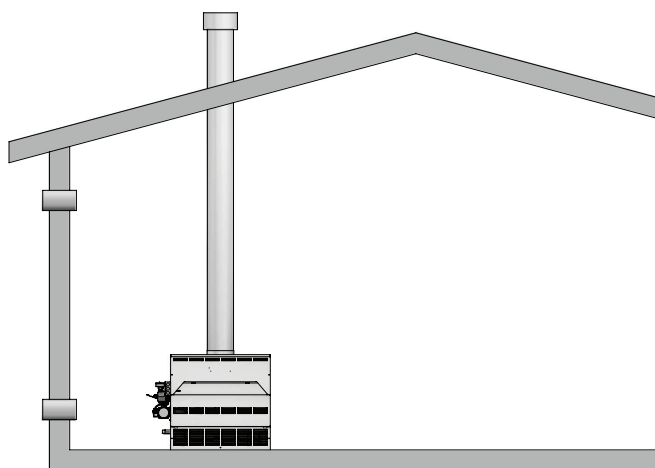

Figure 1-2_Combustion Air Direct from Outside
1. If air is taken directly from outside the building with no duct, provide two permanent openings (see FIG. 1-2):